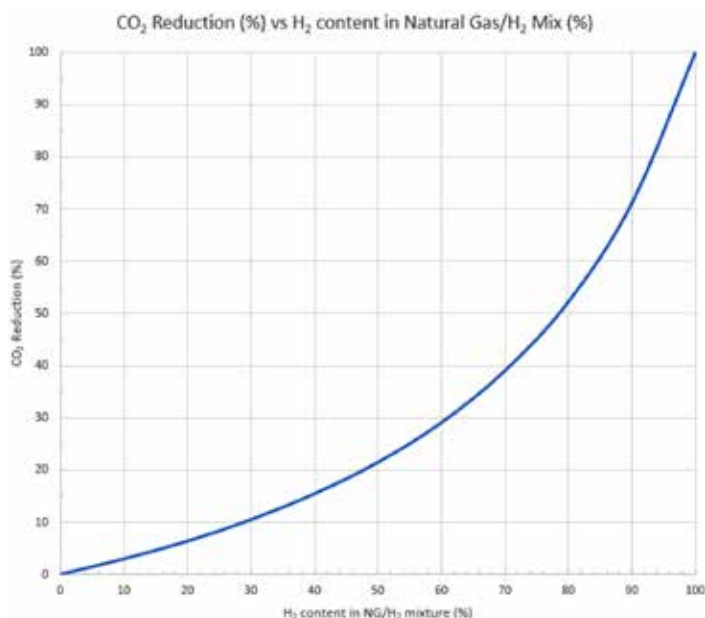

Figure 1
**CO2 reduction with natural gas/H2 blending:** If you consider the blending of hydrogen with natural gas to start reducing CO2 emission, be aware that the percentage of hydrogen in the mixture is not a direct correlation to the amount of CO2 reduction in the combustion products. This is a result of hydrogen's lower heating value and very low density. You can see in the Figure 1 that to realize a 50% reduction in CO2 emissions, you need almost 80% hydrogen in your hydrogen/natural gas blend.